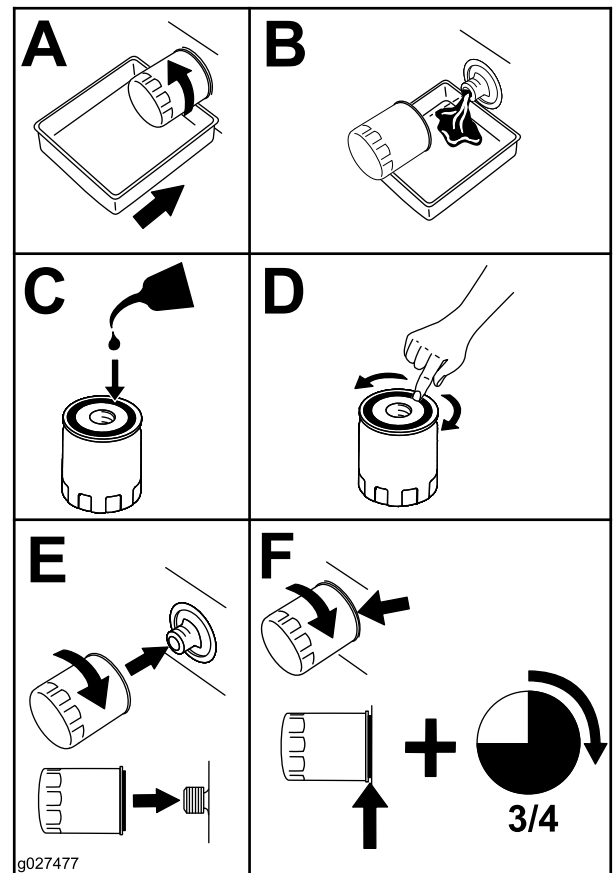

Figure 48
4. Change the engine-oil filter as shown in Figure 48.